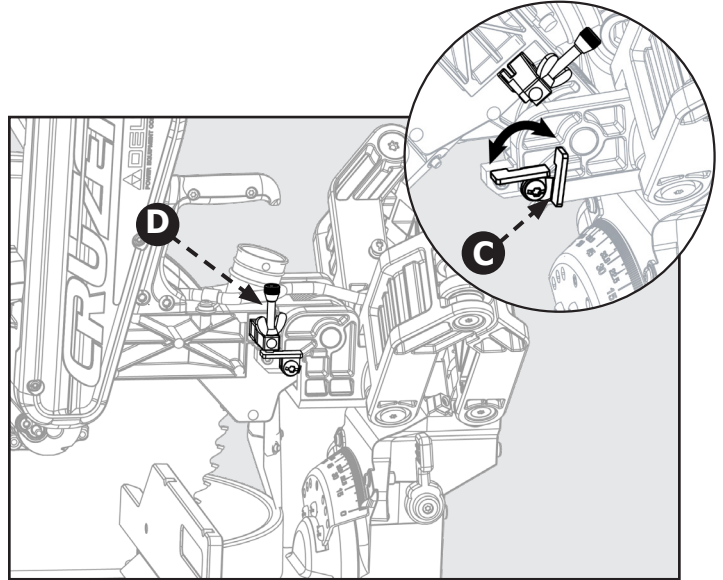

Figure 33
**Refer to Figure 33 and follow these instructions in order to set the depth stop at a specific cut depth:** rotate the stop bracket (C) counterclockwise into the down position. The cut depth can now be adjusted by turning the depth adjustment screw (D).
**Refer to figure 33 and follow these instructions in order to make a through cut:** rotate the stop bracket (C) clockwise into the up position.